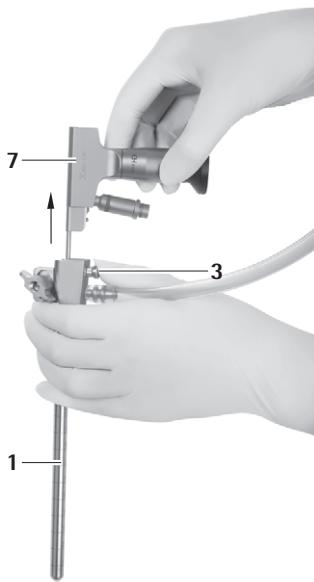

Fig. 11
- ▶ Press the release button 3 and remove the endoscope 5 from the MINOP InVent trocar 1, see Fig. 11.